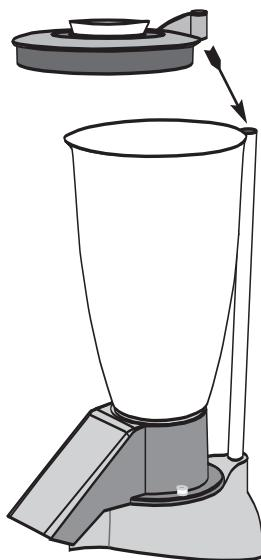
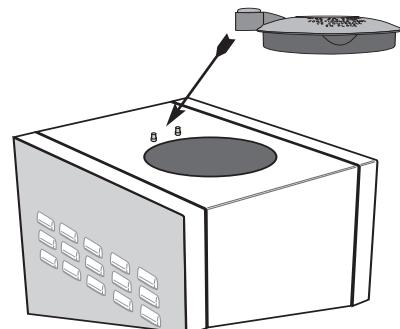

Fig. 5
Fig. 6
- 4** On model V90, fit the lid on the container so that the magnetic sensor is in contact with the end of the safety arm (Fig. 5). On model V100, fit the lid so that the magnetic sensor is between the two positioning screws (Fig. 6).